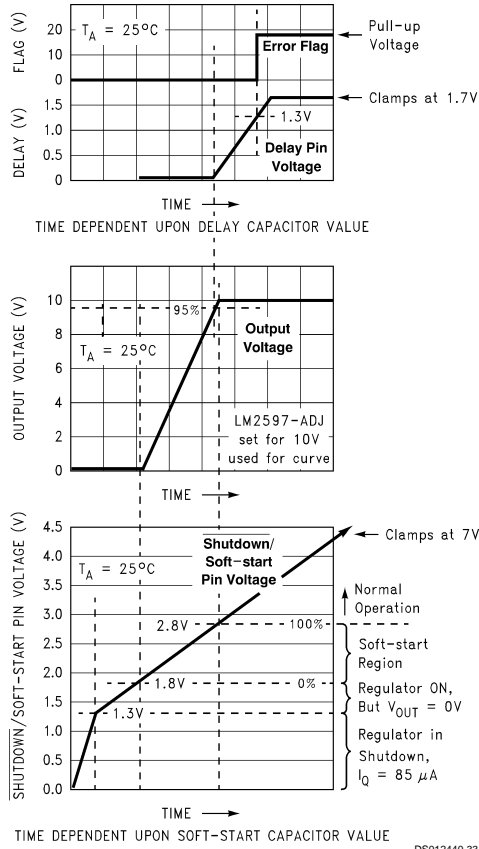
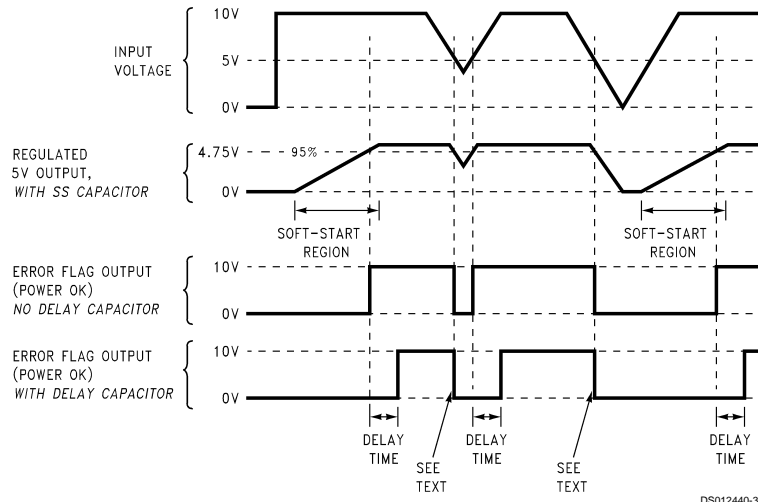

FIGURE 13. Soft-start, Delay, Error, Output
FIGURE 14. Timing Diagram for 5V Output
C_{SS} — A capacitor on this pin provides the regulator with a Soft-start feature (slow start-up). When the DC input voltage is first applied to the regulator, or when the Shutdown /Soft-start pin is allowed to go high, a constant current (approximately $5 \mu A$) begins charging this capacitor. As the capacitor voltage rises, the regulator goes through four operating regions (See the bottom curve in *Figure 13*).
3. Soft-start Region. When the \overline{SD}/SS pin voltage is between $1.8V$ and $2.8V$ ($@ 25^\circ C$), the regulator is in a Soft-start condition. The switch (Pin 8) duty cycle initially starts out very low, with narrow pulses and gradually get wider as the capacitor \overline{SD}/SS pin ramps up towards $2.8V$. As the duty cycle increases, the output voltage also increases at a controlled ramp up. See the center curve in *Figure 13*. The input supply current requirement also starts out at a low level for the narrow pulses and ramp up in a controlled manner. This is a very useful feature in some switcher topologies that require large startup currents (such as the inverting configuration) which can load down the input power supply.
Note: The lower curve shown in *Figure 13* shows the Soft-start region from 0% to 100%. This is not the duty cycle percentage, but the output voltage percentage. Also, the Soft-start voltage range has a negative temperature coefficient associated with it. See the Soft-start curve in the electrical characteristics section.
C_{DELAY} — Provides delay for the error flag output. See the upper curve in Figure 13, and also refer to timing diagrams in Figure 14. A capacitor on this pin provides a time delay between the time the regulated output voltage (when it is increasing in value) reaches 95% of the nominal output voltage, and the time the error flag output goes high. A 3 μA constant current from the delay pin charges the delay capacitor resulting in a voltage ramp. When this voltage reaches a threshold of approximately 1.3V, the open collector error flag output (or power OK) goes high. This signal can be used to indicate that the regulated output has reached the correct voltage and has stabilized.